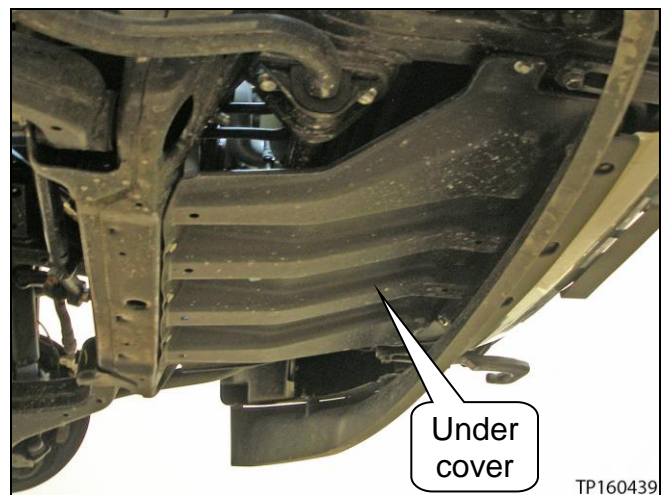

Figure 117
49. Install the engine under cover (see Figure 117).